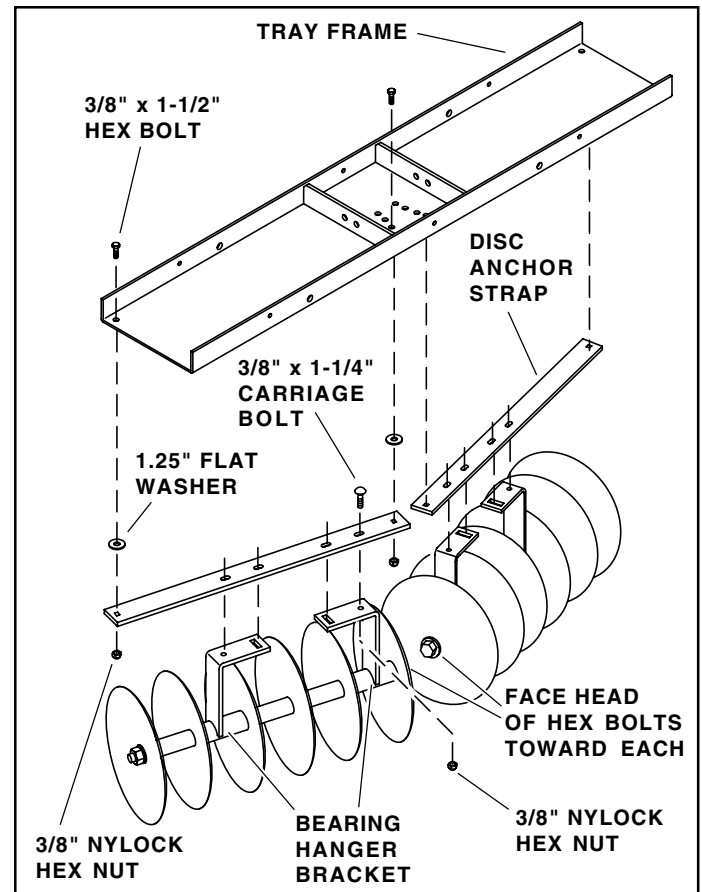

FIGURE 2
3. Assemble a disc anchor strap to a disc assembly using four 3/8" x 1-1/4" carriage bolts and 3/8" Nylock hex nuts. **Tighten.** Repeat for other disc assembly. See figure 2.
4. Assemble the tray frame to the disc anchor straps using four 3/8" x 1-1/2" hex bolts, four 1.25" flat washers, and four 3/8" Nylock hex nuts. Fasten to the rear-most holes in the middle of the tray frame for now. The dished (concave) surface of the disc blades should face to the outside with the heads of the 25" bolts on the inside. **Tighten.** See figure 2.